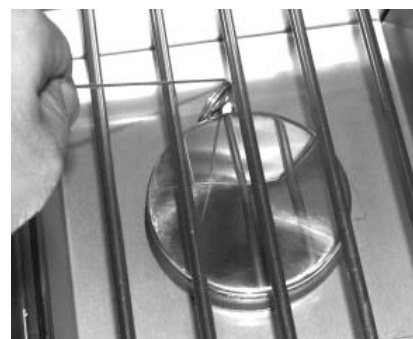

Fig. 17-2 - Manual lighting
**CAUTION:** Always wait five (5) minutes for gas to clear after any unsuccessful lighting attempt.
2. Insert either a burning long-barrel butane lighter, a burning long-stem match, or a burning match held by a wire extension holder through the cooking grid opening to the burner (Fig. 17-2). Hold the flame against the edge of the burner.
4. If the burner does not light within five (5) seconds of turning the control knob, **immediately depress the knob and turn the valve to OFF**. **WAIT FIVE (5) MINUTES** before repeating steps 2 through 4 of the **MANUAL LIGHTING** instructions.